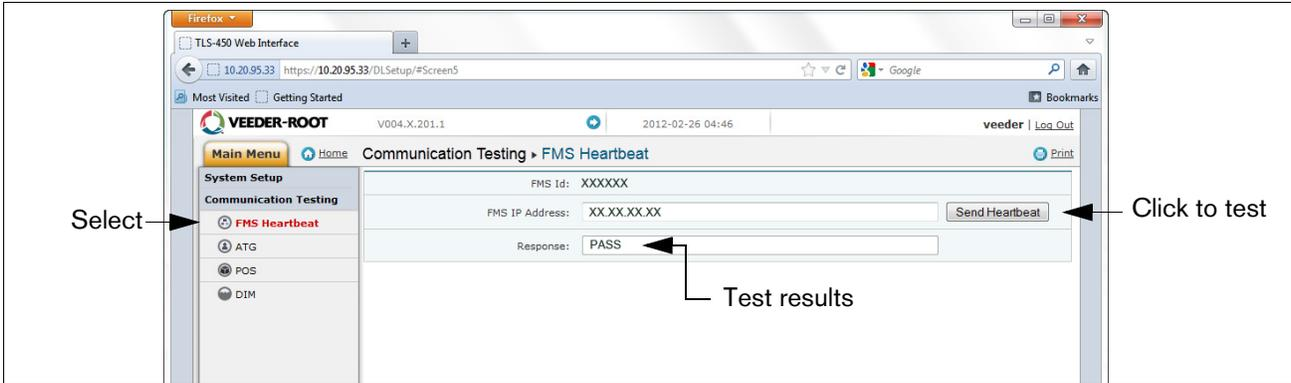

Figure B-18. FMS Heartbeat Screen
- The Datalogger should now be configured to collect inventory and transactional data, which will be periodically retrieved by FMS. To verify connectivity with FMS, reconnect the Datalogger to the network or cell modem. Go to the "DLSetup" application's Communication Testing screen, click on "FMS Heartbeat", then click on the "Send Heartbeat" button (see Figure B-18). Wait for the "Response" text to indicate PASS or